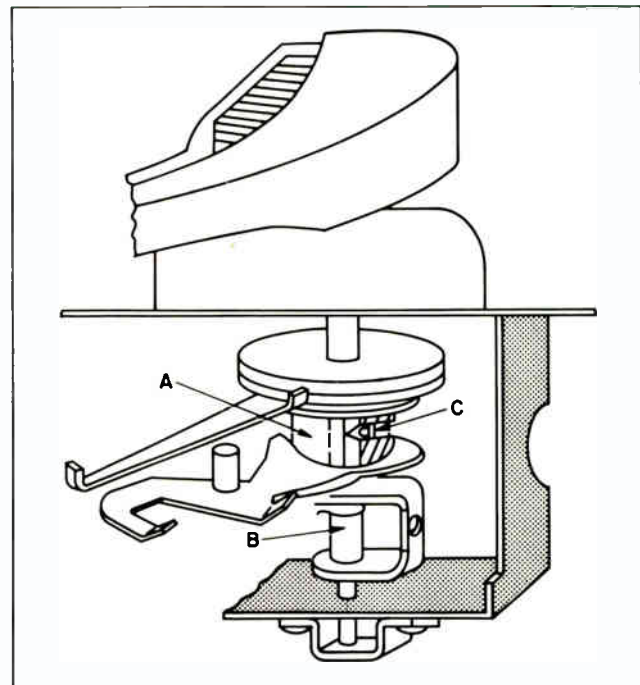

Figure 6
Of all the parts assembled on the tone arm shaft, figure 6, only the stop plate assembly (A) is securely fastened to the shaft (B), by using a set screw (C). Therefore, any up or down or lateral movement of the stop plate is transferred to the tone arm. All the other parts assembled